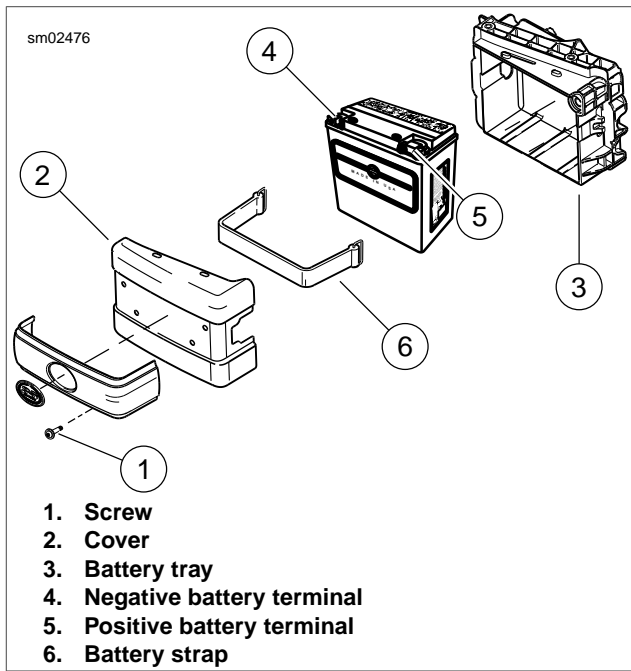

Figure 1-39. Battery Assembly
2. See Figure 1-39. Remove lower fastener (1).
3. Pivot cover (2) outward and lift to disengage slots on cover from projections on battery tray (3).
4. Unthread and remove battery negative cable from negative battery terminal (4).
5. Unbolt and remove battery positive cable from positive (+) battery terminal (5).
6. Remove battery strap (6).
- See Figure 1-39. With battery terminals facing outward, place battery in battery tray and install battery strap.
- Insert fastener through battery positive cable terminal and into threaded hole of battery positive (+) terminal (5). Tighten fastener to 60-96 **in-lbs** (6.8-10.9 Nm). Place battery terminal cover over positive battery terminal.
- Insert fastener through battery negative cable terminal into threaded hole of battery negative (-) terminal (4). Tighten fastener to 60-96 **in-lbs** (6.8-10.9 Nm).
5. Place slots on battery cover (2) on projections on battery tray (3). Install screw (1) to secure cover.